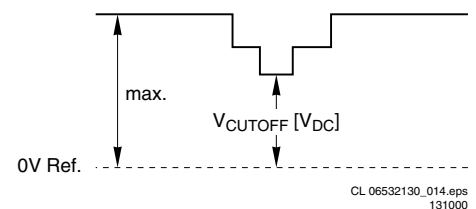

Figure 8-2
9. Measure the cut off pulse during first full line after the frame blanking (see Fig. 8-2). You will see two pulses, one being the cut off pulse and the other being the white drive pulse. Choose the one with the lowest value, this is the cut off pulse.